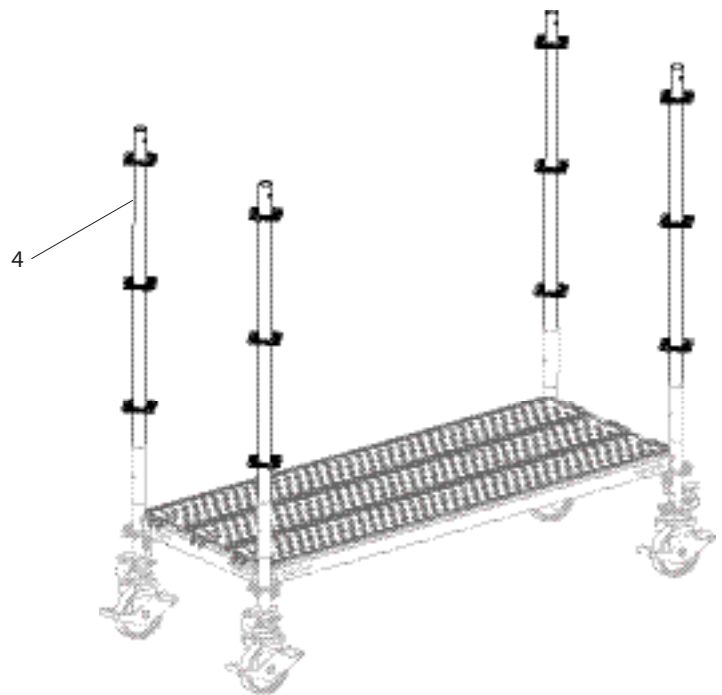

Fig. A3.03
1. Insert Top Standards UVH-2 150 (4) into the base standards. (Fig. A3.03)